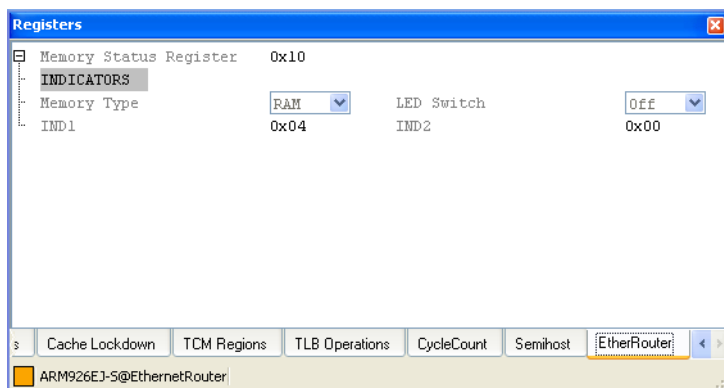

Figure 5-16 EtherRouter tab in the Registers view
3. Select the **EtherRouter** tab to view the custom registers. Figure 5-16 on page 5-26 shows an example: